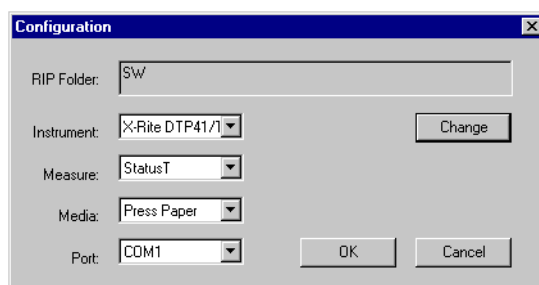

Figure C.1 Configuration dialog box
1. Choose **File > Configure** to display the Configuration dialog box, as shown in Figure C.1.
RIP Folder	Identifies the sw folder of the RIP installation that you are using to print targets and import data. You can read targets that have been created by the RIP running on another computer if you have network access to the corresponding sw folder. If you want to do this, click Change and use the file browser to select the sw folder of the remote the RIP installation. The default is the relative path to the sw folder of the the RIP with which Genlin is supplied (as shown in Figure C.1).